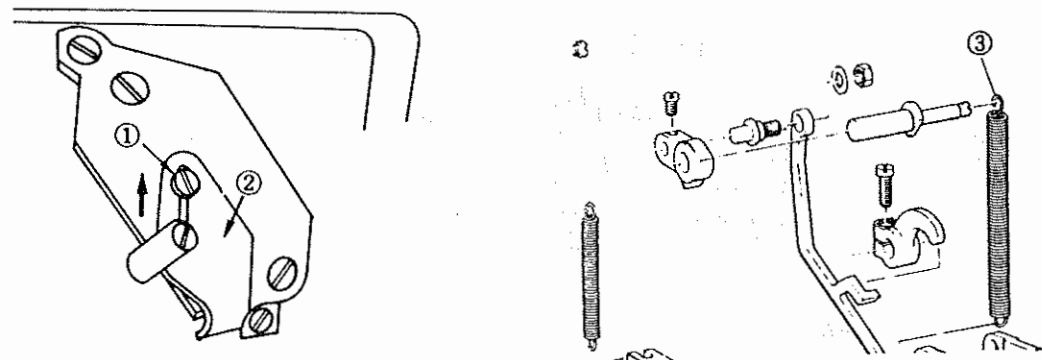

Fig. 55
- Do not change the spring pressure of tension spring ③ (Fig. 55). The proper speed at the time of switching into the reverse feed or back to the normal feed is provided by the good balance between the spring tension and the attraction force of the solenoid. Accordingly, careless adjustment would disturb this balance, and if the spring tension is set too high, the machine may fail to switch to the reverse feed.